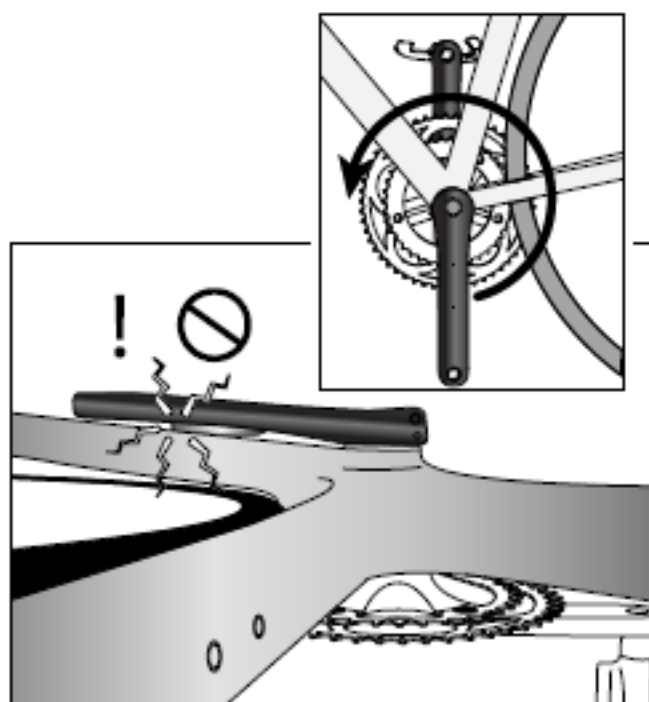

FIG 7
3. Carefully and slowly rotate the crank 1 full revolution to ensure there is no contact between the power meter sensor housing and any part of the frame or other components as illustrated in FIG 7.